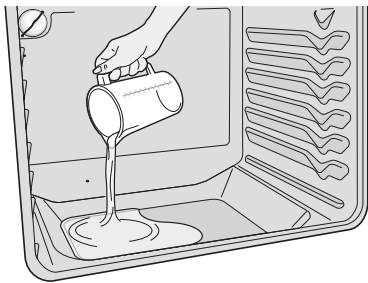

Figure 22: Pour water onto the oven bottom
3. Pour 8 oz (235 ml) of distilled or filtered water onto the oven bottom (See Figure 22). Close the oven door.